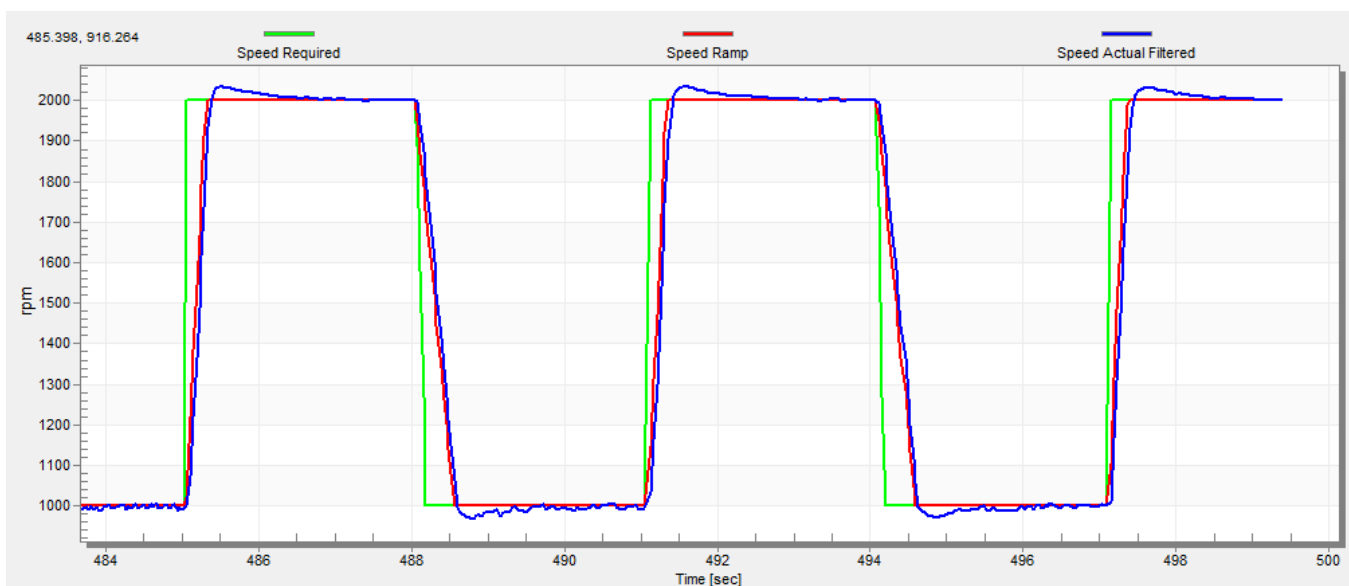

Figure 34. Speed Controller Response—speed loop response with a small overshoot
- The speed loop response has a small overshoot, and the “Speed Actual Filtered” settling time is sufficient. Such response can be considered optimal (see Figure 34).